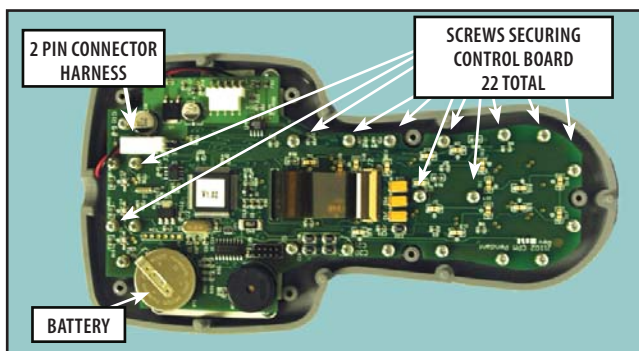

FIGURE 6.24
3. Disconnect the 2 Pin connector harness from the Display attached to the Control Board. **Refer to Figure 6.24.**
4. Using a #1 Phillip screwdriver, remove the 22 screw securing the Control Board to the Pendant Base. **Refer to Figure 6.24.**